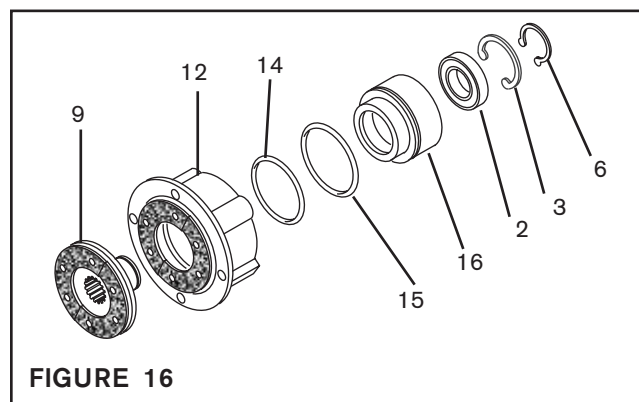

FIGURE 16
12. Remove the Retaining Ring (Item 6) and press the Splined Disc (Item 9) out of the Air Chamber (Item 12) (See Figure 16).
13. Slide the Piston (Item 16) out of the Air Chamber (Item 12) (See Figure 16).
14. Remove the O-ring Seals (Items 14 and 15) from the Piston (Item 16) and the Air Chamber (Item 12) (See Figure 16).
15. Remove the Retaining Ring (Item 3) from the Piston (Item 16) (See Figure 16).
16. Press the old Ball Bearing (Item 2) out of the Piston (Item 16) (See Figure 16).
17. Clean the bearing bore of the Piston (Item 16) with fresh safety solvent, making sure all old Loctite® residue is removed (See Figure 16).
18. Apply an adequate amount of Loctite® 680 to evenly coat the outer race of the new Ball Bearing (Item 2); then, press the new Ball Bearing (Item 2) into the Piston (Item 16) and reinstall the Retaining Ring (Item 3) (See Figure 16).
19. Lubricate the new O-ring Seals (Items 14 and 15) and the contact surfaces on the Piston (Item 16) and Air Chamber (Item 12) with a thin film of fresh o-ring lubricant (See Figure 16).
20. Install the new O-ring Seals (Items 14 and 15) (See Figure 16).
21. Slide the Piston (Item 16) back into the Air Chamber (Item 12) (See Figure 16).
22. Support the inner race of the Ball Bearing (Item 2) located inside the Piston (Item 16) and press the Splined Disc (Item 9) into the Air Chamber (Item 12) and Piston (Item 16) (See Figure 16).
23. Reinstall Retaining Ring (Item 6) (See Figure 16).